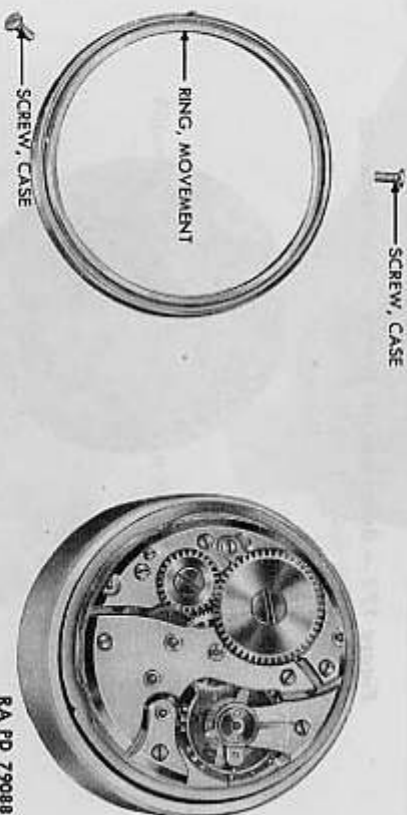

Figure 170 — Bulova Wrist Watch — Movement Ring Removed
- g. Remove Movement Ring (fig. 170). Remove two movement ring screws, and separate movement and movement ring.
- r. Replace Movement Ring (fig. 170). Remove the stem and crown and replace the movement ring, aligning the hole in the ring to the stem position in the movement. Secure the ring in place with its screws.